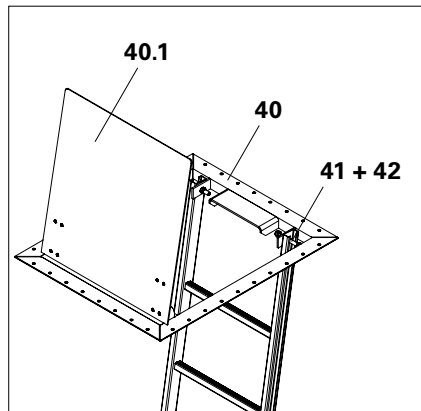

Fig. B4.04
1. Open the hatch cover (40.1) and lift Ladder using the crane. Lower Ladder through the hatch opening (40).
- (Fig. B4.04)